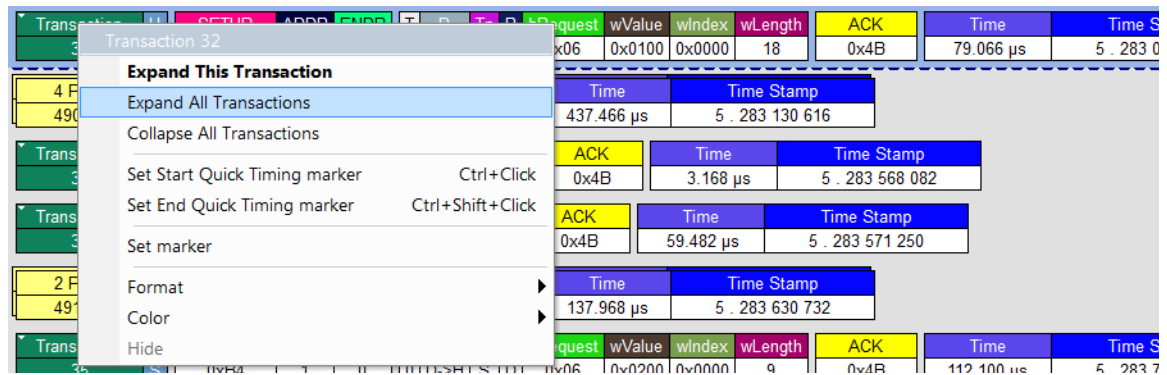

Figure 6.47: Expand Transaction Menu
1. Right-click the transaction number you wish to view to display the Expand Transaction menu (see Figure 6.47 on page 317.)